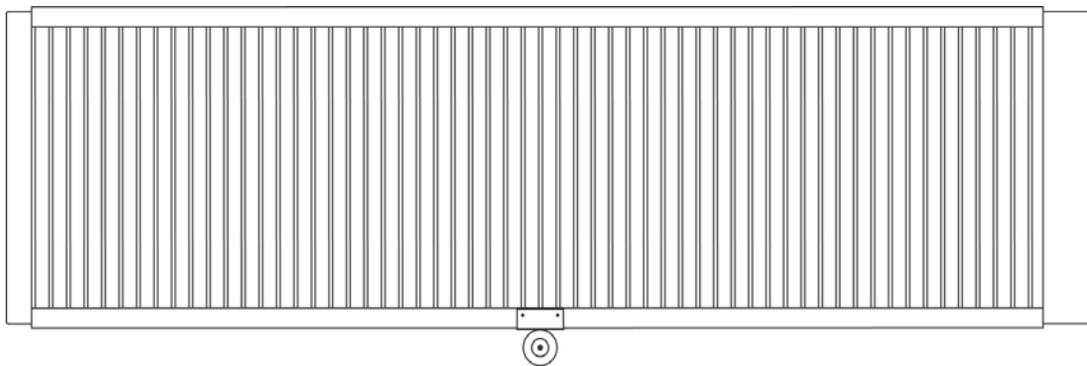

FIG 3
- ⚠ Once assembled (as shown in FIG. 3), please refer to ramp's instruction sheet for proper ramp use, safety guidelines, etc.